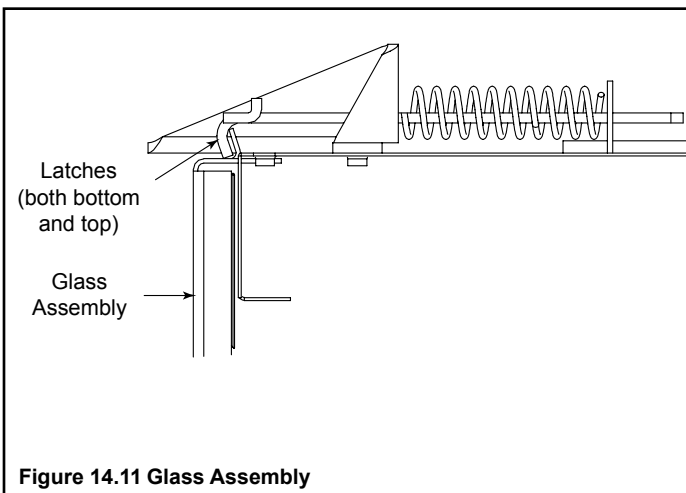

Figure 14.11 Glass Assembly
- Pull the four (30/33/36 in. appliances) or seven (42 in. appliance) glass assembly latches out of the groove on the glass frame. Refer to Figure 14.11.